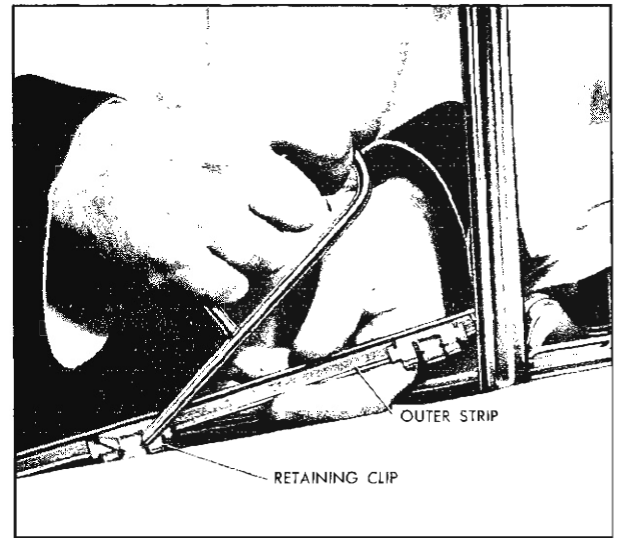

Fig. 12-11 Sealing Strip Removal
5. With a flat-bladed tool, gently pry inner or outer strip assembly up at the attaching clip locations (five clips each for front and rear doors on four door styles and seven clips for front doors on two door styles) (See Fig. 12-11).